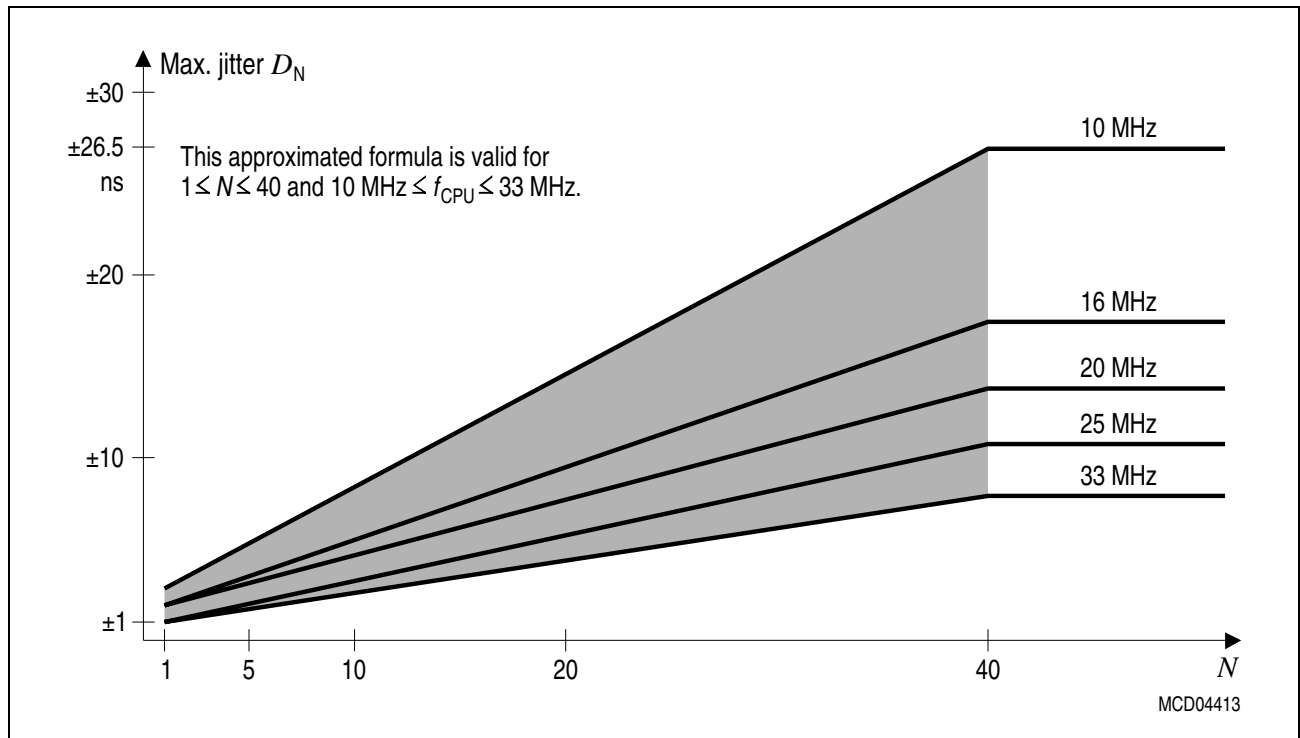

Figure 11 **Approximated Maximum Accumulated PLL Jitter**
The actual minimum value for TCL depends on the jitter of the PLL. As the PLL is constantly adjusting its output frequency so it corresponds to the applied input frequency (crystal or oscillator) the relative deviation for periods of more than one TCL is lower than for one single TCL (see formula and **Figure 11**).
*Note: For all periods longer than 40 TCL the $N = 40$ value can be used (see **Figure 11**).*